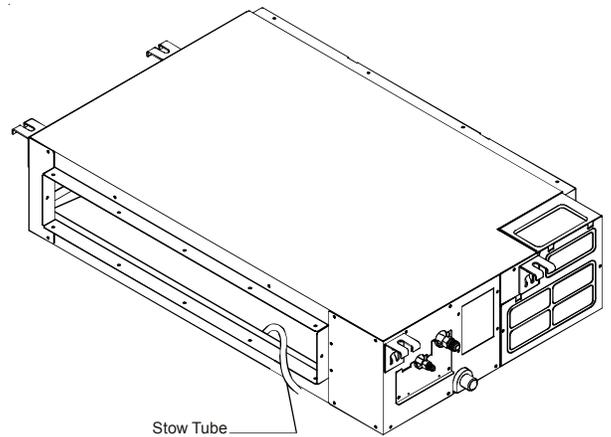

Figure 29
5. Remove the test cover and add approximately 4 US pints (2000ml) of water to the water received through the side stow tube to see if the water is draining properly through the drain pipe. See Figure 29.